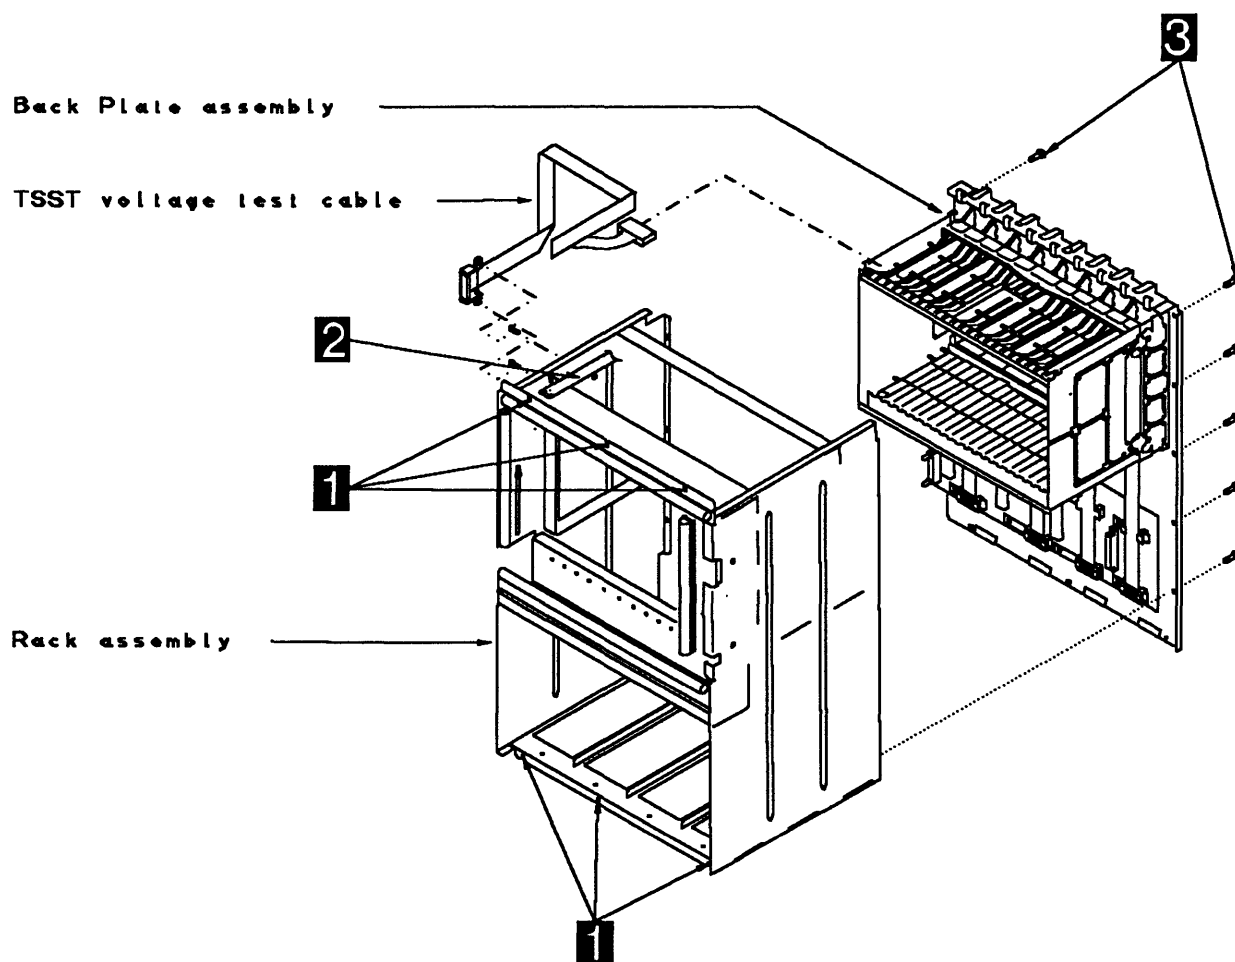
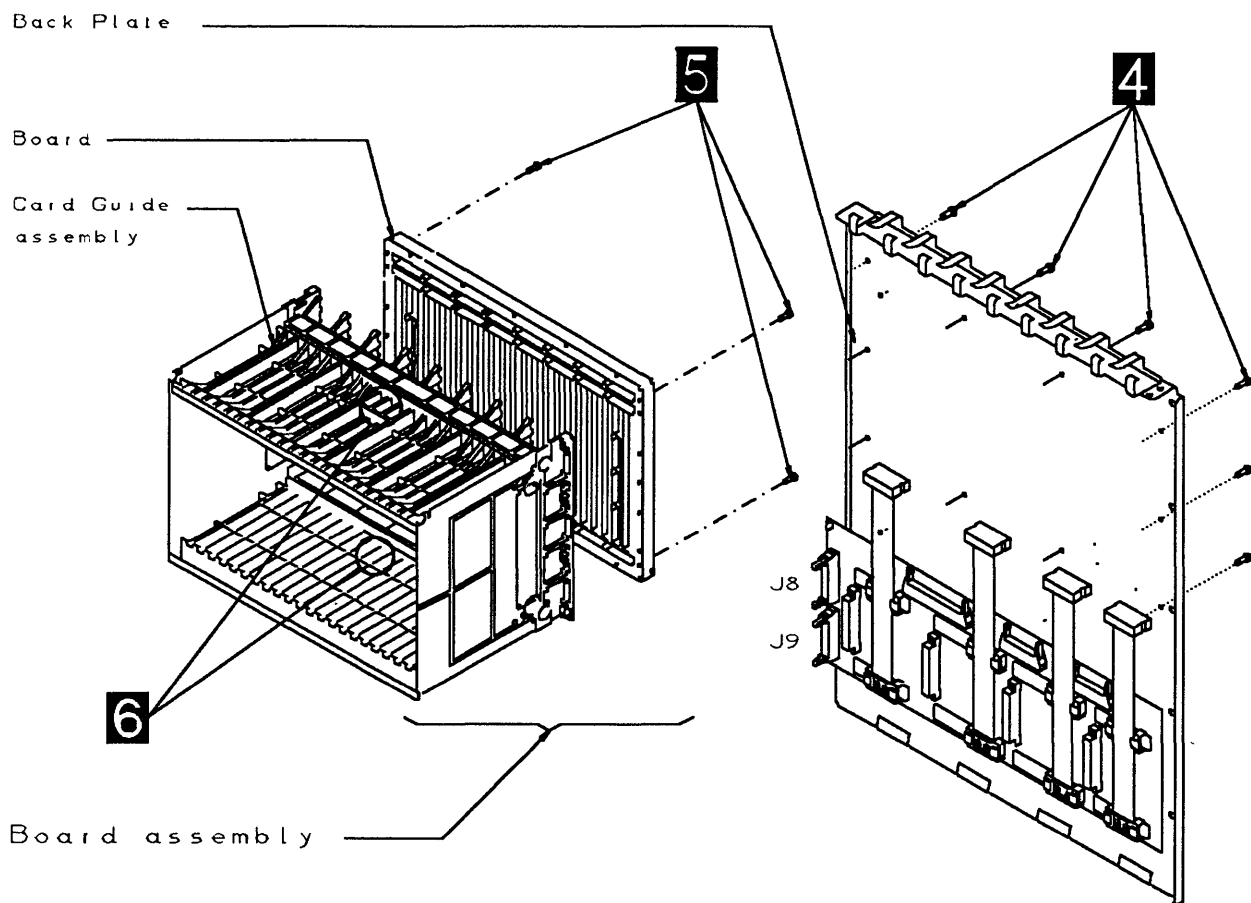

Figure 5-138. Enclosure for the Line Adapter Board
Figure 5-139. Back Plate Assembly
- d. Refer to Figure 5-139 on page 5-136 and remove the power connectors 01H-J8 and 01H-J9.
- d. Refer to Figure 5-139 on page 5-136 and remove the power connectors 02B-J8 and 02B-J9.
- d. Refer to Figure 5-139 on page 5-136 and remove the power connectors 02G-J8 and 02G-J9.
- d. Refer to Figure 5-139 on page 5-136 and remove the power connectors 03G-J8 and 03G-J9.
12. Refer to Figure 5-138 on page 5-135 and Figure 5-139 on page 5-136, and do the following:
1. Refer to Figure 5-138 on page 5-135 and Figure 5-139 on page 5-136 and do the following: